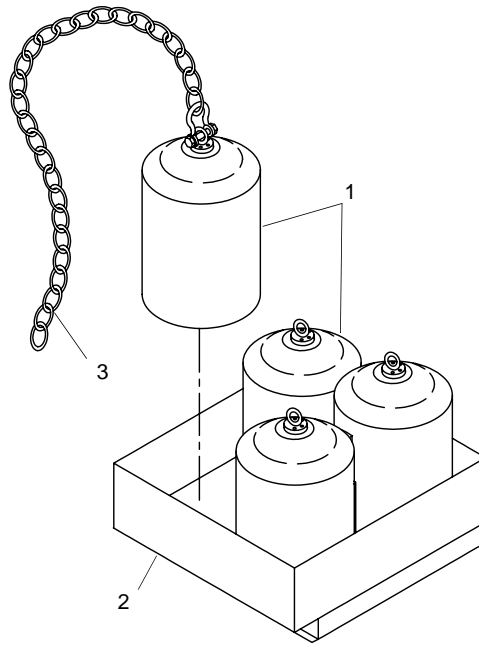

Figure 9. 3 ft by 5 ft Fenders and Pallet
17. Using crane and slings, place 3 ft by 5 ft fenders (figure 9, item 1) in pallet (figure 9, item 2).
18. Place fender chains (figure 9, item 3) in the center of the pallet (figure 9, item 2), between fenders (figure 9, item 1).